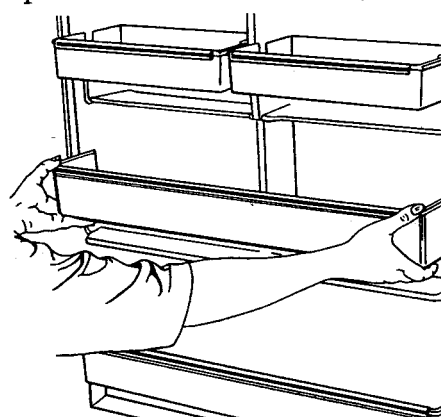

Figure 23
- Then pull out to remove. See Figure 23.